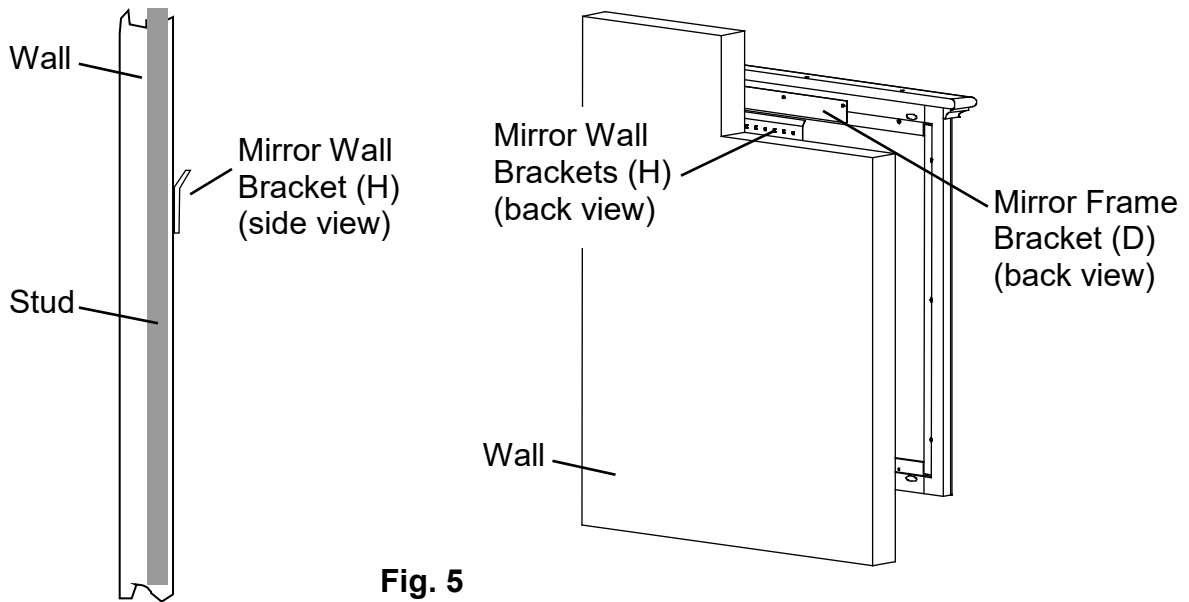

Fig. 5
5. NOTE: The Mirror Wall Bracket (H) angles out at the top. When you hang your Beveled Mirror, the Mirror Frame Bracket (D) fits over the angled part of the Mirror Wall Bracket (H). See Figure 5.